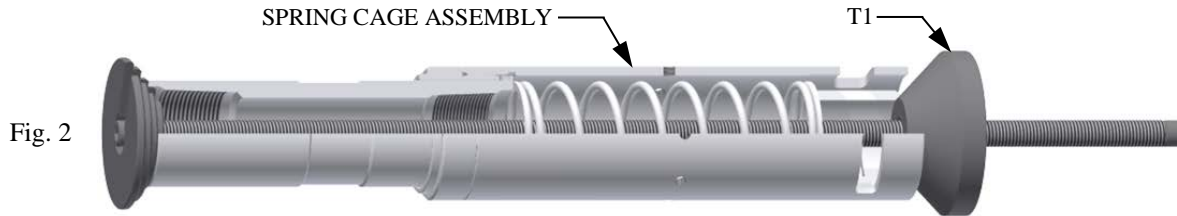

Fig. 2
D-2.1.1) Compress compression spring (4) with assembly tool (T1) (Fig. 2).